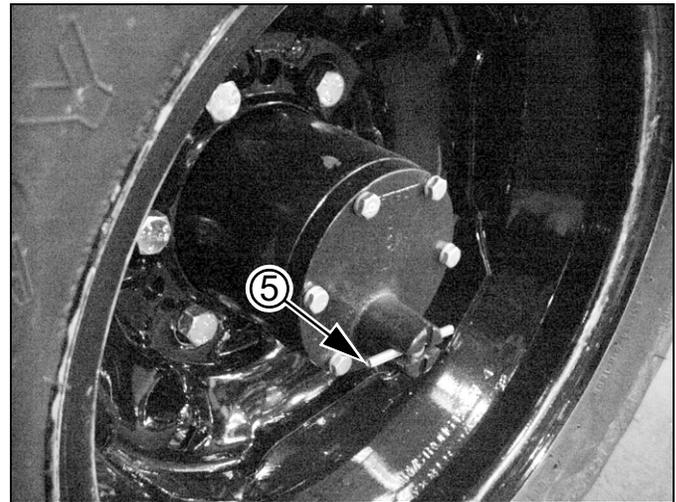

Figure 20
*Refer to Figure 20*
4. Engage drive with lock-out hub on the left gauge wheel. Pull pin ⑤ away from hub. Rotate 90°. Release into deeper notch pair.